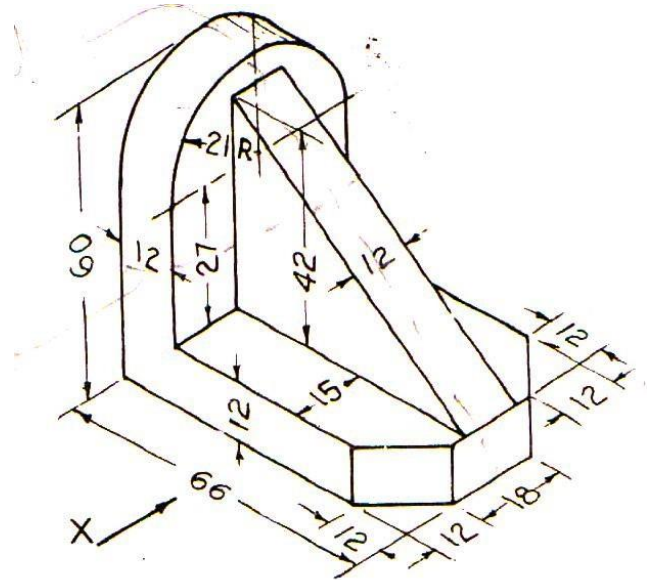

Figure 13
2. Draw the following View for Figure 13